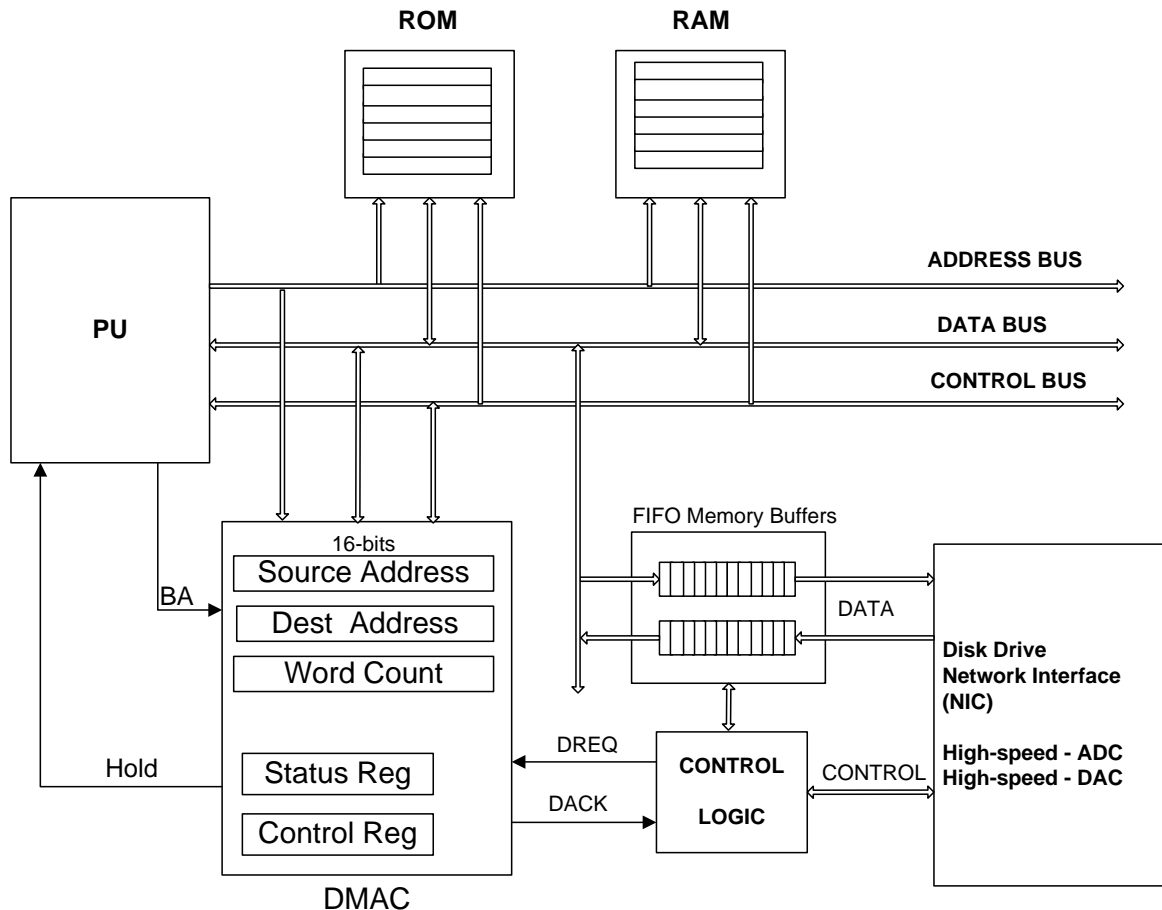

Figure 13. A Buffered DMA Interface
As discussed previously, typical applications for DMA handle data streams arriving in blocks or packets. In general, the processor system can generate or consume data very much faster than peripheral devices can generate it and this leads to the situation where the processor is starved of data and has to wait while the peripheral catches-up. Conversely, when data is sent from the processor, the peripheral is overwhelmed with data because the processor is sending data much faster than the peripheral can consume it. In such circumstances an intermediate memory buffer is required and its purpose is to even-out the speed mismatch between the processor and the I/O device. A Buffered DMA interface is shown in Figure 13.
In addition to the standard READ(RD) and WRITE(WR) control signals, FIFO memory devices have several control signals that indicate their status, for example, FULL, HALF-FULL and EMPTY and these are often used to generate interrupt or DMA requests. Note that in Figure 13 there are actually two FIFO's, one in the output direction for write data and one in the input direction for read data.